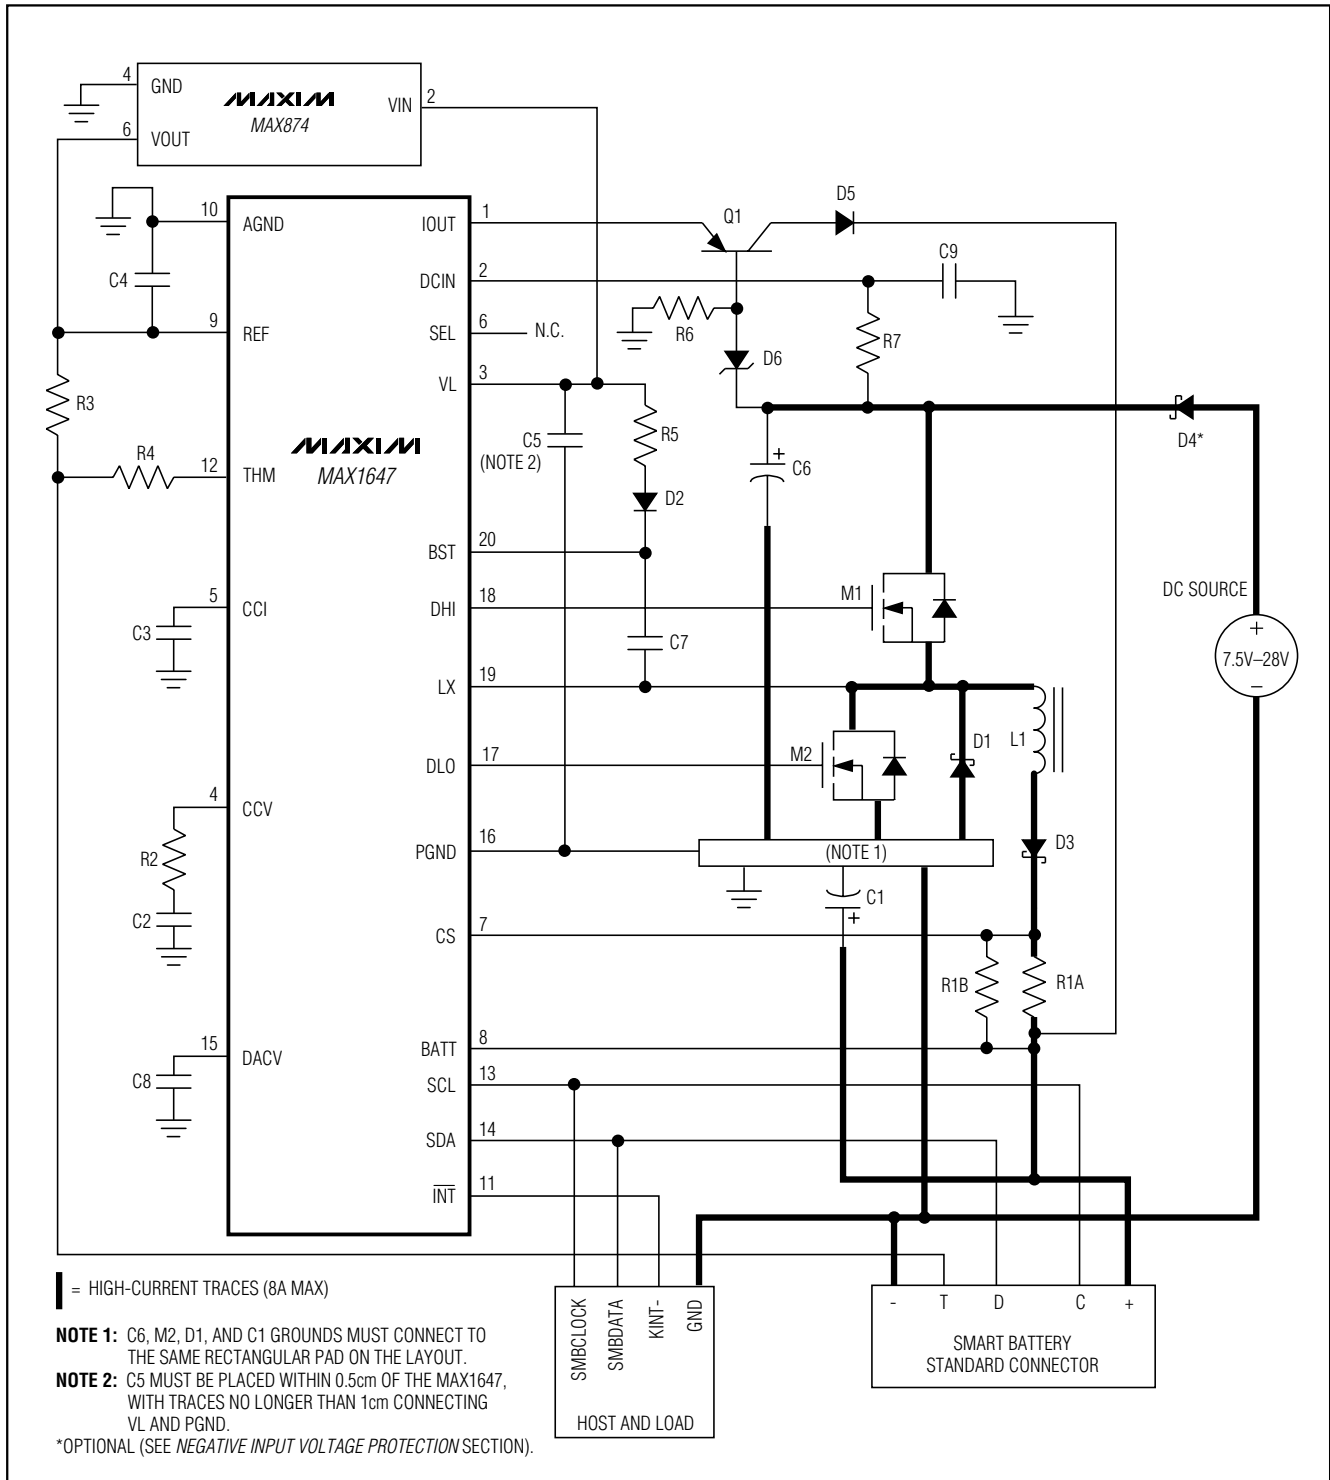
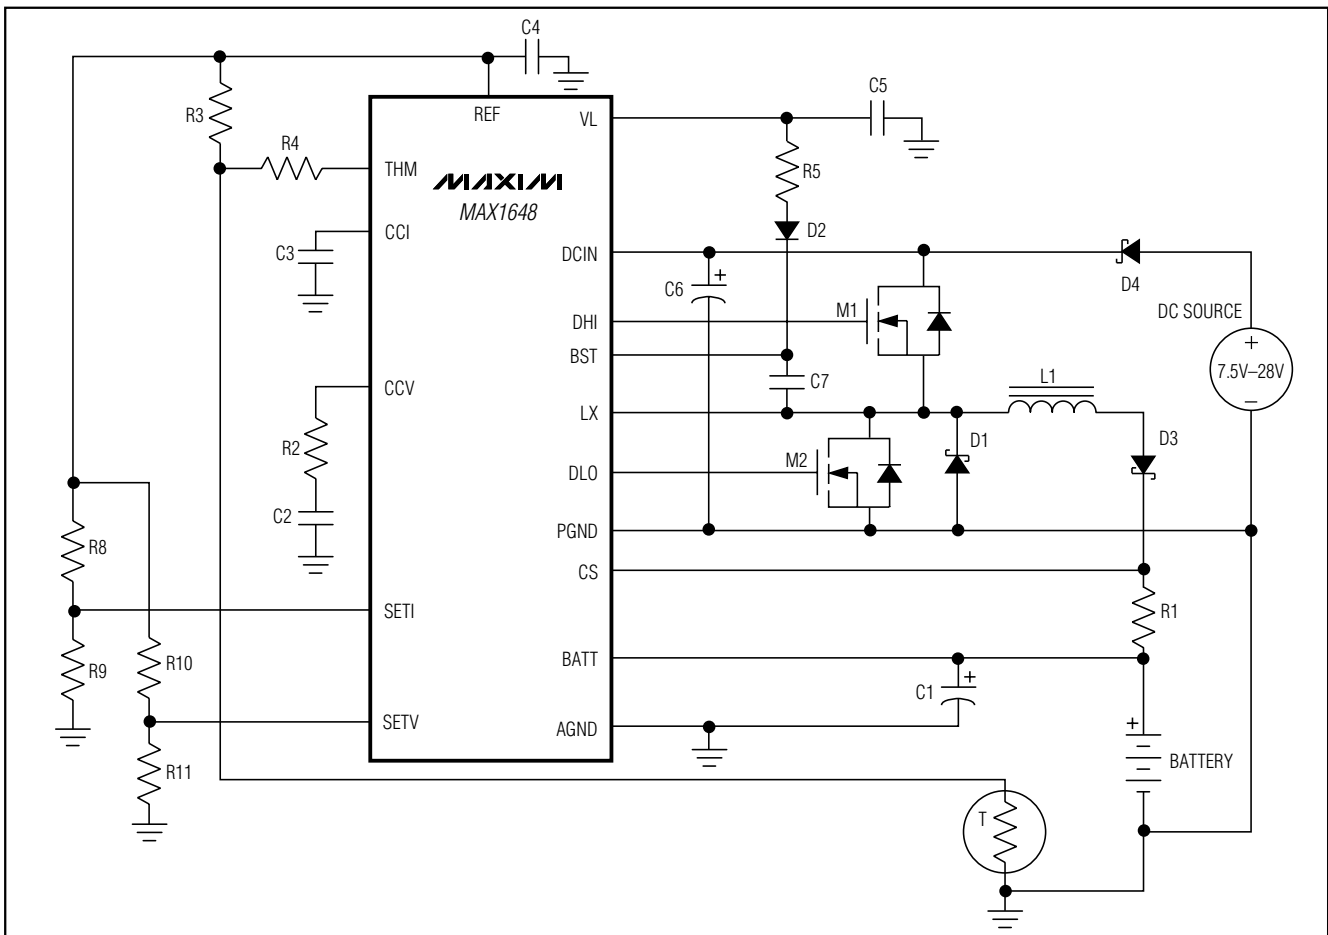
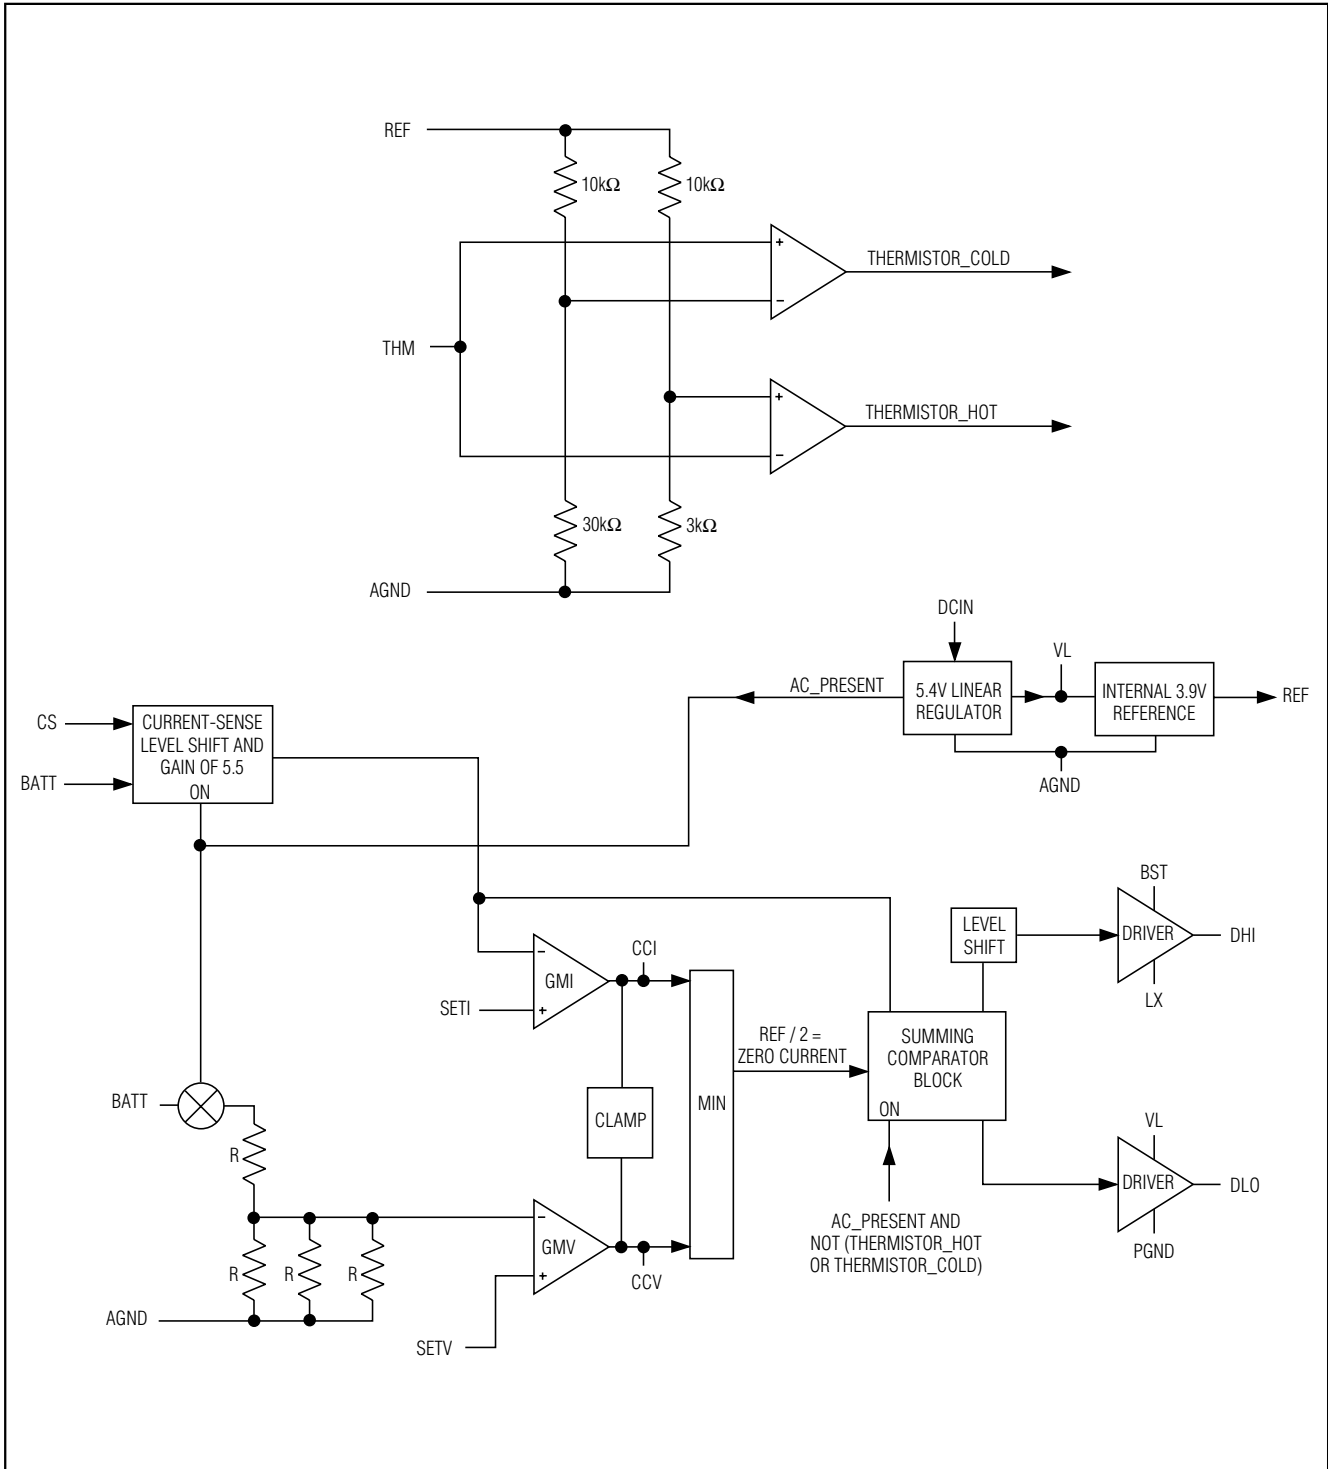

Figure 3. MAX1647 Typical Application Circuit
Figure 4. MAX1648 Typical Operating Circuit
Figure 6b. MAX1648 Block Diagram
(Circuit of Figure 3,  $T_A = +25^\circ\text{C}$ , unless otherwise noted.)
**Table 1a. Component Selection for Figure 3 Circuit (Also Use for Figure 4)**
Set the MAX1648's voltage- and current-limit set points (V0 and I0, respectively) using external resistive dividers. Figure 6b is the MAX1648 block diagram. V0 equals four times the voltage on the SETV pin. I0 equals the voltage on SETI divided by 5.5, divided by R1 (Figure 4).
At heavy loads, the PWM controller switches at a fixed frequency and modulates the duty cycle to control the battery voltage or current. At light loads, the DC current through the inductor is not sufficient to prevent the current from going negative through the synchronous rectifier (Figure 3, M2). The controller monitors the current through the sense resistor  $R_{SEN}$ ; when it drops to zero, the synchronous rectifier turns off to prevent negative current flow.
The MAX1647 drives external N-channel MOSFETs to regulate battery voltage or current. Since the high-side N-channel MOSFET's gate must be driven to a voltage higher than the input source voltage, a charge pump is used to generate such a voltage. The capacitor C7 (Figure 3) charges to approximately 5V through D2 when the synchronous rectifier turns on. Since one side of C7 is connected to the LX pin (the source of M1), the high-side driver (DHI) can drive the gate up to the voltage at BST, which is greater than the input voltage, when the high-side MOSFET turns on.